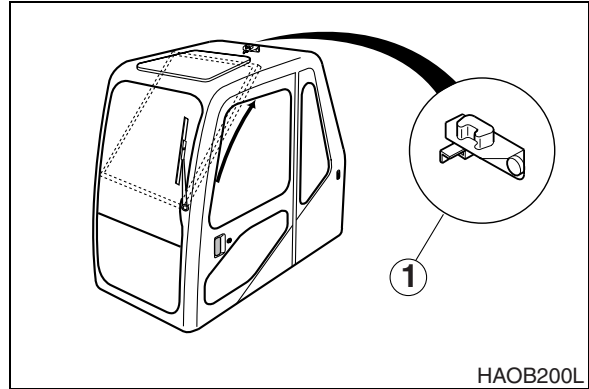

Figure 93
7. Holding window handles (one at top and the other at bottom of window) pull window up and then push it back. Make sure window is secured with latch (1, Figure 93).